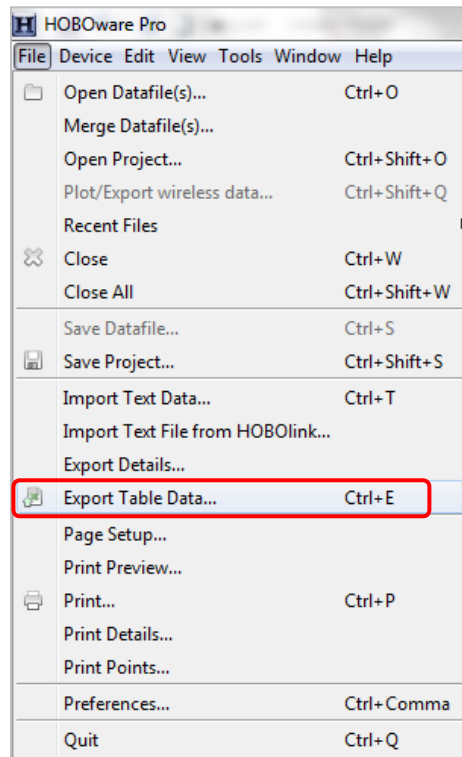

Figure A.1.17: File menu options.
3. Click “File” > “Export Table Data” (Figure A.1.17).